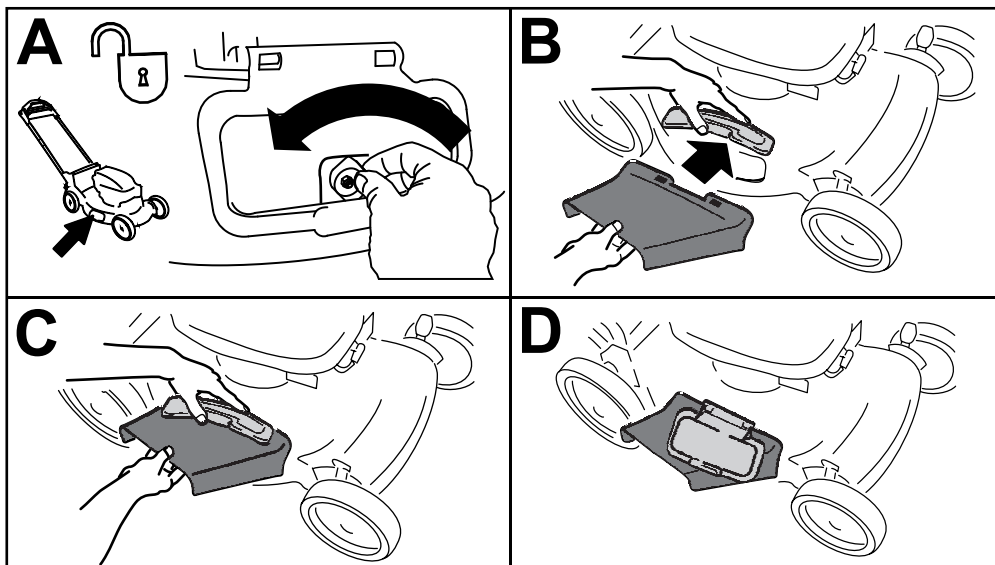

Figure 19
1. Unlock the side-discharge deflector (A of Figure 19).
2. Lift open the side-discharge deflector (B of Figure 19).
3. Install the side-discharge chute and close the deflector onto the chute (B, C, and D of Figure 19).